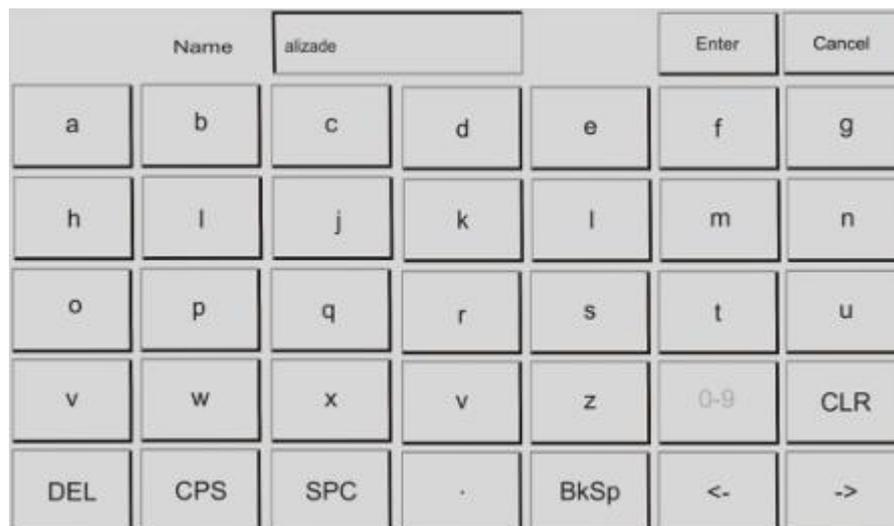

Figure 4-2 Name/ Memory Menu
- **Name:** Select to enter the patient name (Figure 4-2).